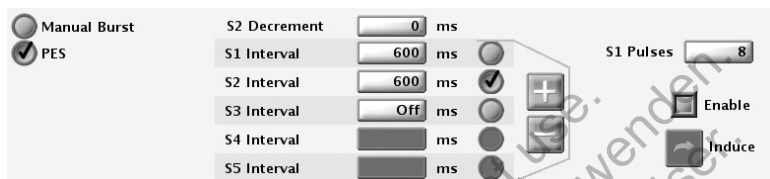

Figure 5-3. PES induction options
3. Select the desired value for the S1–S5 intervals (Figure 5-3 on page 5-4). You can either select a value box for the desired S interval and choose a value from the box or use the plus or minus symbols to change the value visible in the value box.